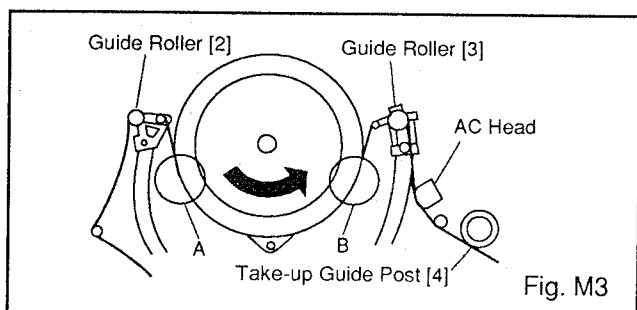
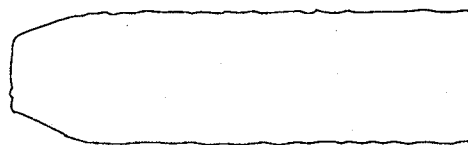
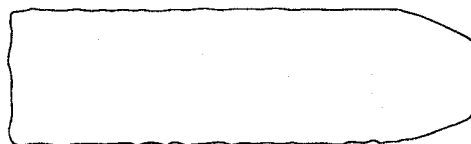
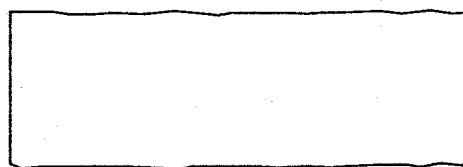

Fig. M3
Fig. M7
Fig. M8
Fig. M9
1. Play back a blank cassette tape and check to see that the tape runs without creasing at Guide Rollers [2] and [3], and at points A and B on the lead surface. (Refer to Fig M3 and M4.)
2. If creasing is apparent, align the height of the guide rollers by turning the top of Guide Rollers [2] and [3] with a Guide Roller Adj. Screwdriver. (Refer to Fig. M3 and M5.)
3. Check to see that the tape runs without creasing at Take-up Guide Post [4] or without snaking between Guide Roller [3] and AC Head. (Fig. M3 and M5)
3. Play back the Gray Scale on the Alignment Tape (FL6NS8). Adjust the height of Guide Rollers [2] and [3] (Fig.M3) watching the oscilloscope display so that the envelope becomes as flat as possible. To do this adjustment, turn the top of the Guide Roller with the Guide Roller Adj. Screwdriver.
4. If the envelope is as shown in Fig. M7, adjust the height of Guide Roller [2] (Refer to Fig.M3) so that the waveform looks like the one shown in Fig. M9.
5. If the envelope is as shown in Fig. M8, adjust the height of Guide Roller [3] (Refer to Fig.M3) so that the waveform looks like the one shown in Fig. M9.
6. When Guide Rollers [2] and [3] (Refer to Fig.M3) are aligned properly, there is no envelope drop either at the beginning or end of track as shown in Fig. M9.
Note: Upon completion of the adjustment of Guide Rollers [2] and [3] (Refer to Fig. M3), check the X Value by pushing the Tracking Control Up or Down buttons alternately, to check the symmetry of the envelope. Check the number of pushes to ensure center position. The number of pushes UP to achieve 1/2 level of envelope should match the number of pushes DOWN from center. If required, redo the "X Value Alignment."